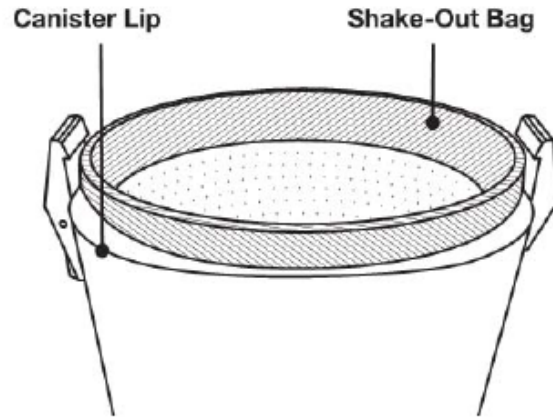

Fig 4
6. Ensure that the cloth bag is in place. (Fig. 4)